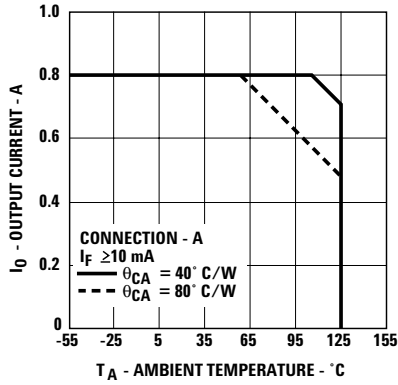
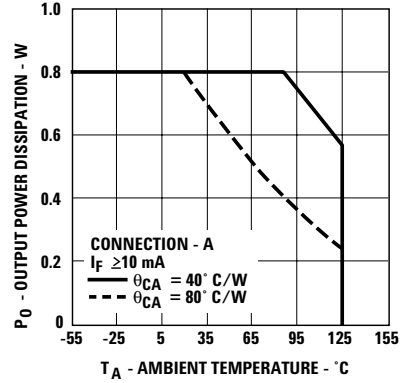

Figure 2. Maximum Average Output Current Rating vs. Ambient Temperature.
Figure 4. Output Power Rating vs. Ambient Temperature.
Average Output Current - Figure 2
- For rating, see Figure 4. The output power  $P_O$  rating curve is obtained when the part is handling the maximum average output current  $I_0$  as shown in Figure 2.
IN ORDER TO DETERMINE  $V_{OUT}$  CORRECTLY, THE CASE TO AMBIENT THERMAL IMPEDANCE MUST BE MEASURED FOR THE BURN-IN BOARDS TO BE USED. THEN, KNOWING  $\theta_{CA}$ , DETERMINE THE CORRECT OUTPUT CURRENT PER FIGURES 2 AND 4 TO INSURE THAT THE DEVICE MEETS THE DERATING REQUIREMENTS AS SHOWN.
output pins for a duration sufficient to reach thermal equilibrium.  $R_{SS}$  includes the effects of the temperature rise of each element in the thermal model. Rating curves are shown in Figures 2 and 4. Figure 2 specifies the maximum average output current allowable for a given ambient temperature. Figure 4 specifies the output power dissipation allowable for a given ambient temperature. Above  $55^{\circ}\text{C}$  (for  $\theta_{CA} = 80^{\circ}\text{C}/\text{W}$ ) and  $107^{\circ}\text{C}$  (for  $\theta_{CA} = 40^{\circ}\text{C}/\text{W}$ ), the maximum allowable output current and power dissipation are related by the expression  $R_{SS} = P_O(\text{max}) / (I_O(\text{max}))^2$  from which  $R_{SS}$  can be calculated. Staying within the safe area assures that the steady-state junction temperatures remain less than  $150^{\circ}\text{C}$ . As an example, for  $T_A = 95^{\circ}\text{C}$  and  $\theta_{CA} = 80^{\circ}\text{C}/\text{W}$ , Figure 2 shows
that the output current should be limited to less than 610 mA. A check with Figure 4 shows that the output power dissipation at  $T_A = 95^\circ\text{C}$  and  $I_O = 610\text{ mA}$ , will be limited to less than 0.35 W. This yields an  $R_{SS}$  of  $0.94\ \Omega$ .